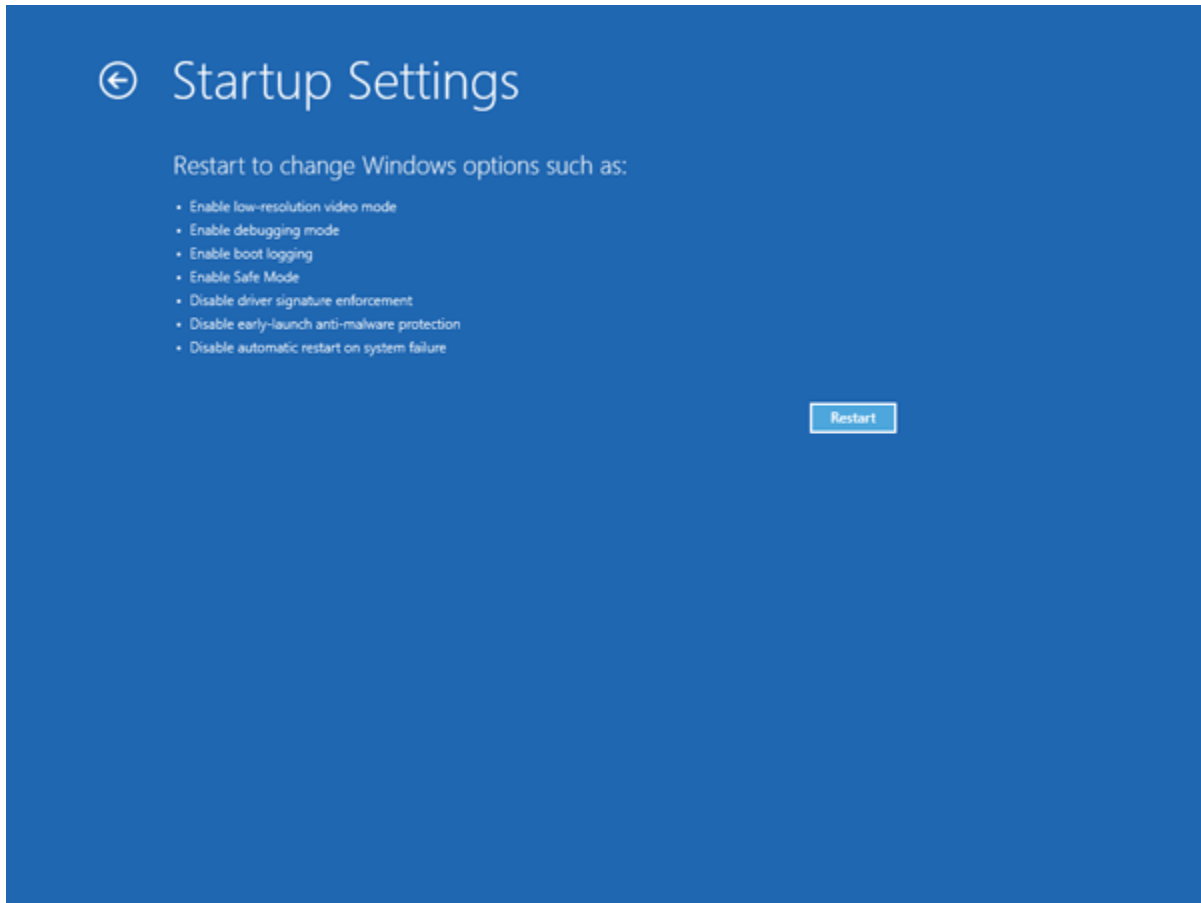

Figure 6.7. Startup Settings > Restart
9. Click the **Restart** button on from the Startup Settings to reboot the computer again (Figure 6.7).